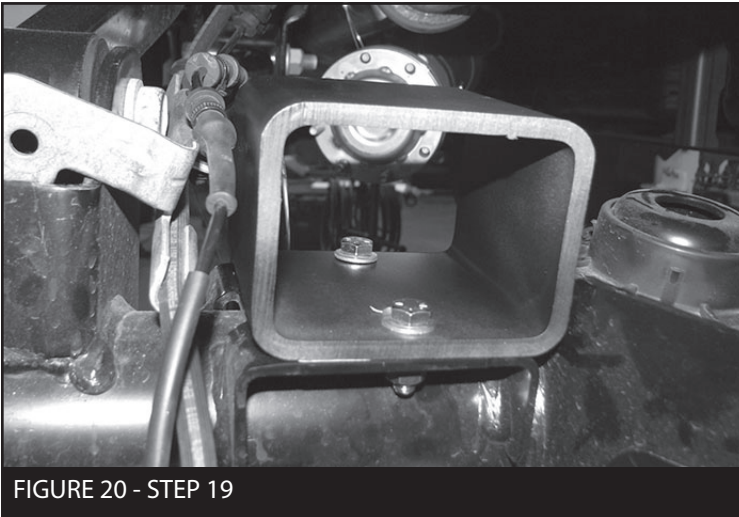

FIGURE 20 - STEP 19
19. Install the FT50724 (Rear bumpstop spacer) using the supplied 5/16" x 1" hardware. Torque to 25 ft-lbs SEE FIGURE 20.